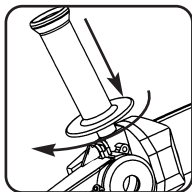

Fig.1
2. Remove the auxiliary handle from the box and attach to the tool. (as shown in fig.1)